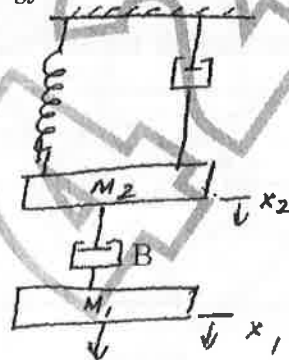

Figure 1
2. Draw the analogous electrical network for the mechanical system in Figure 1 using force-voltage analogy.